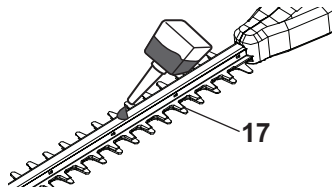

Fig. 32
12. Lubricate the internal surfaces of the blade if the hedge trimmer blade (17) overheats during operation (Fig. 32).
1. Keep the hedge trimmer blade (17) clean and free of debris. Remove trimmings with a brush.
2. Apply a small amount of suitable lubricant on the hedge trimmer blade (17) to retain a good cutting performance (Fig. 32).